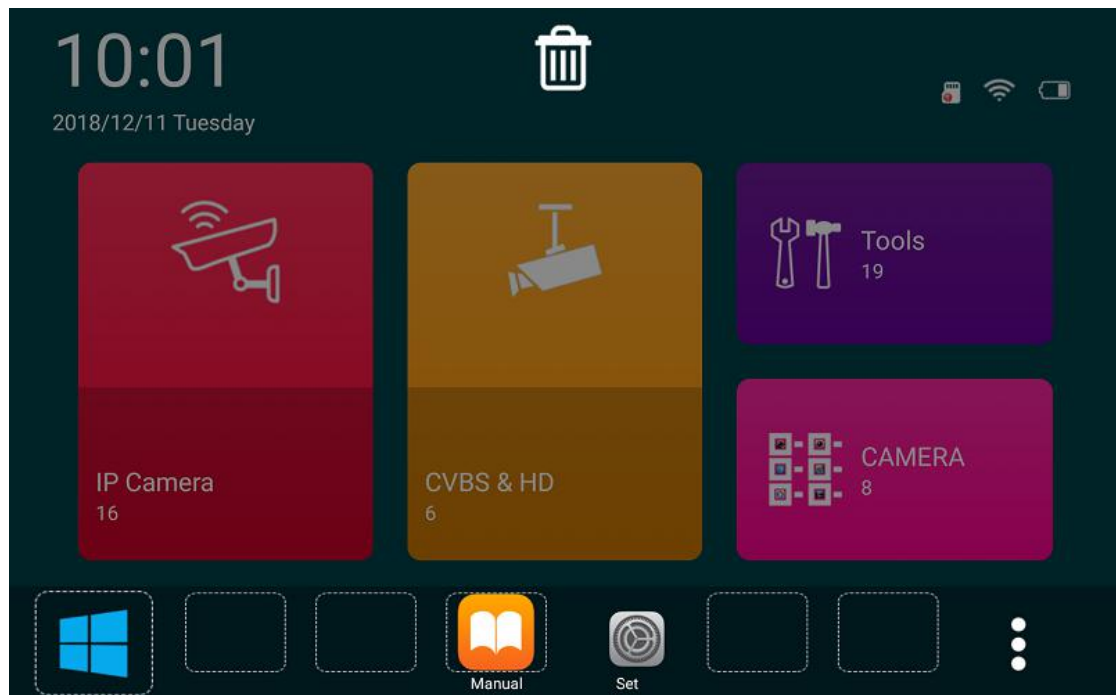

Figure 7
3) Long press common tool bar to drag the App icon in it to any other folder or to  icon to uninstall the App, when dragging an icon over a folder, the folder will turn grey, release to put it into the folder, drag an icon to common tool bar and release to put it into the 6 dotted square , you can also switch the position of Apps in common tool bar by dragging one icon over another icon, as shown in Figure 7